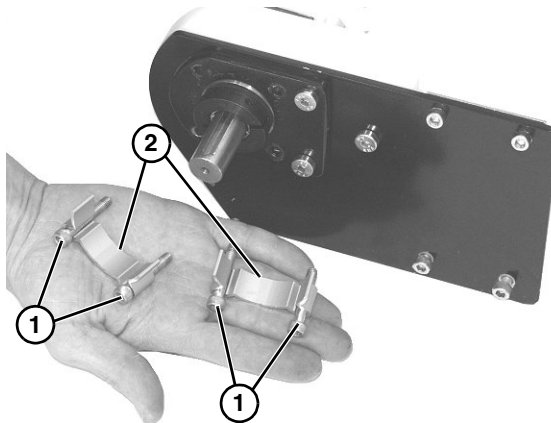

Figure 26
6. Remove four socket head screws (**Figure 26, item 1**) and drive guards (**Figure 26, item 2**).